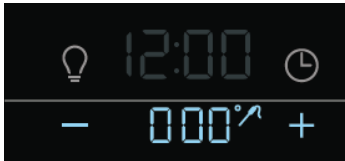

Figure 24: Probe inserted and ready to set temperature
- When the probe is inserted, an acceptance tone will sound, the probe icon appears in the display (See Figure 24). Close the oven door.